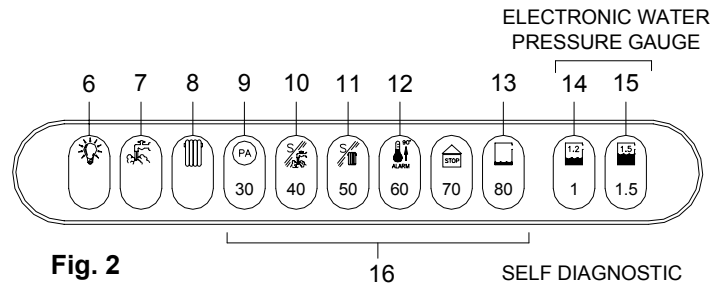

Fig. 2
- fill the system until a pressure of 1.5 bar has been reached (light no. 15 ON; see fig. 2) and then close the tap on the filling loop;
- before starting up the boiler the water pressure must be checked again; if this is seen to be below 0.5 bar (light no. 13 flashes; see fig. 2), bring it back up to 1.5 bar (light no. 15 ON; see fig. 2) and close the tap on the filling loop